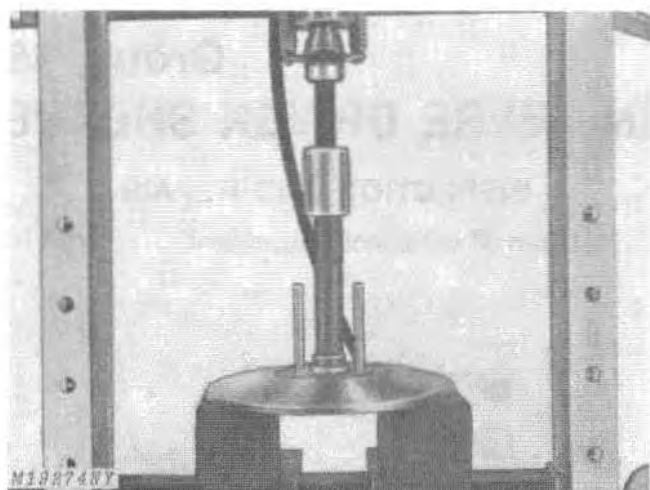

Fig. 5-Removing Movable Face Bushing
4. Use a press to remove old bushing, Fig. 5.